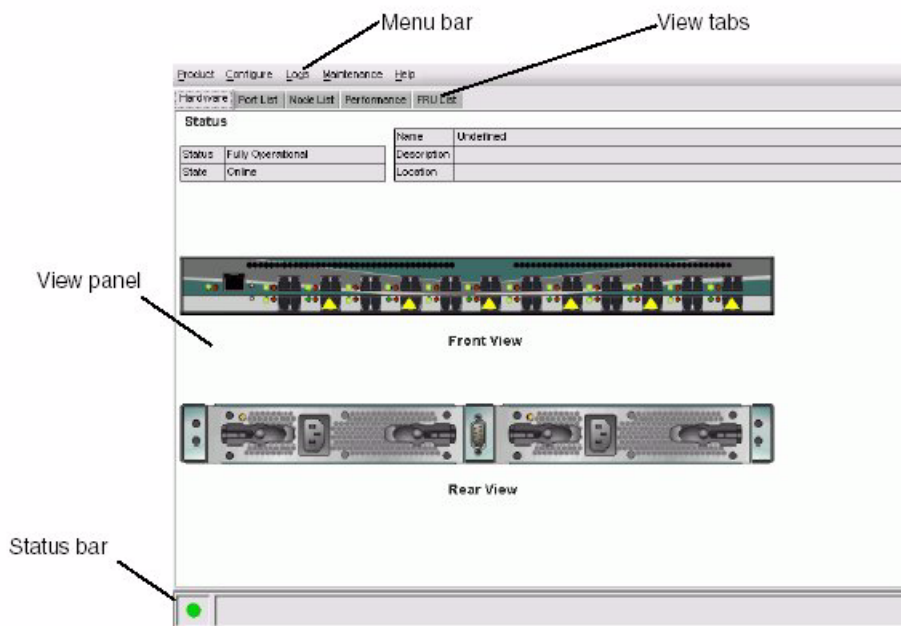

Figure 3 Element Manager window (Hardware View for the Edge Switch 2/24)
- In HAFM, double-click the appropriate edge switch product icon in the Physical/Topology Map, as shown in Figure 2. The Element Manager window displays, showing the default Hardware View. See Figure 3
Click **Element Manager**. The Element Manager window displays, showing the default Hardware View. See Figure 3.
The main Element Manager window is divided into four main areas, as shown in Figure 3 on page 20: Menu bar, View tabs, View panel, and Status bar. You can use the features in these areas to configure switch operation, monitor performance, and access maintenance features.